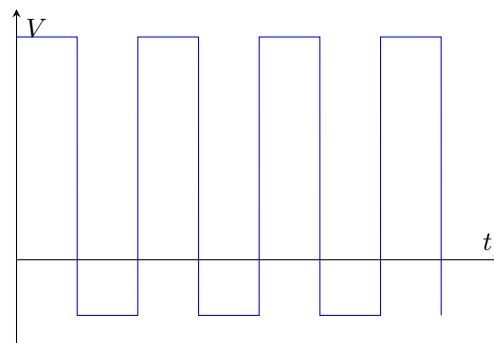

Figure 4.2: A square wave with offset
3. From the default circuit in figure 4.2, it is an inverting Schmitt Trigger without any applied reference voltage. Thus, its thresholds will be, $V_{TH} = \frac{R_1}{R_1 + R_2} V_H$ & $V_{TL} = \frac{R_1}{R_1 + R_2} V_L$.